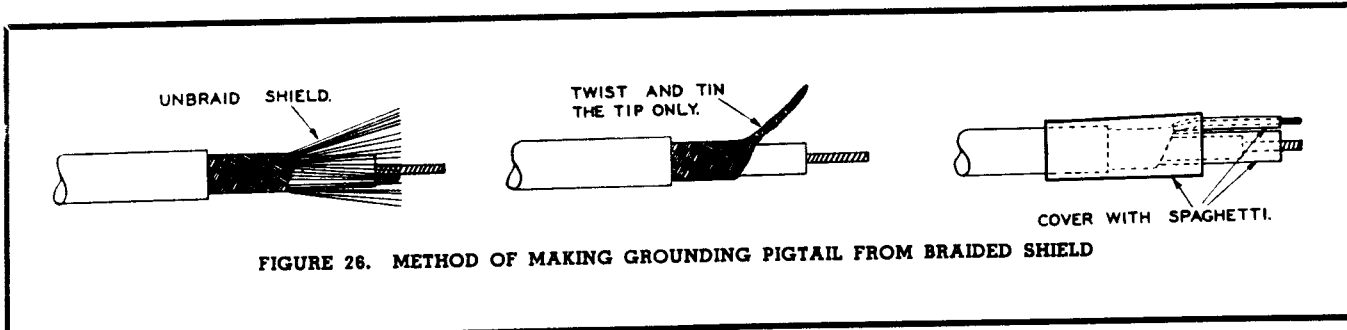
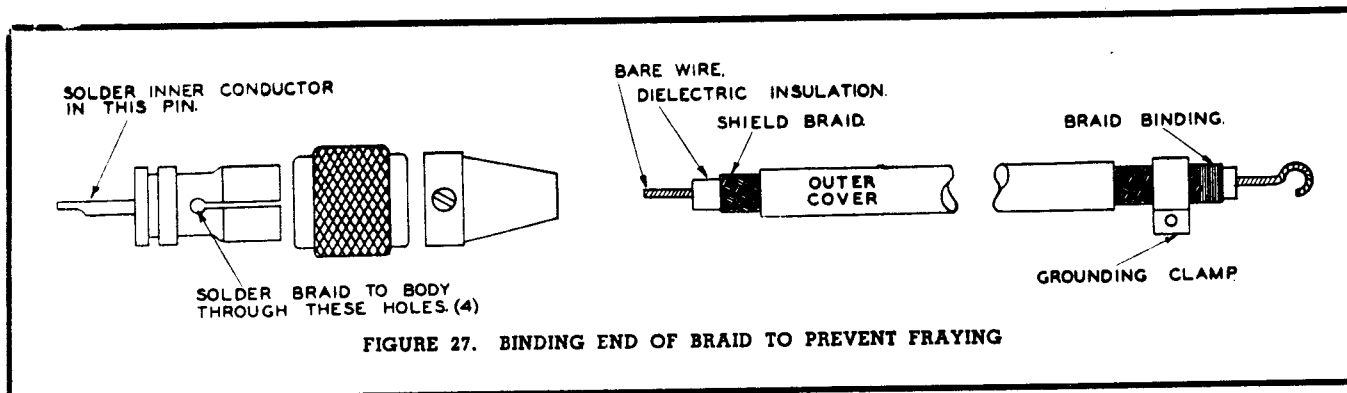

FIGURE 26. METHOD OF MAKING GROUNDING PIGTAIL FROM BRAIDED SHIELD
FIGURE 27. BINDING END OF BRAID TO PREVENT FRAYING
(1) Length of cable to be stripped depends upon fitting used. Cut outer braid at desired point with a knife, circling the covering. See figure 26. Then split covering lengthwise and remove. Take care not to cut so deeply that the braid is nicked.
(2) If a cotton braid cover is used between outer cover and braid, fan cotton braid and trim off with scissors.
(3) In installations where coaxial line does not terminate in a plug, use a wire brush or a fine hooked instrument to unravel outer copper braid conductor
shield the required distance from end of stripped outer covering. Then twist outer braid together to form a ground lead. See figure 26. Braids of most connectors should be cut off a short distance from outer cover.
(8) In some plugs, a "C" washer is necessary to securely anchor outer braid lead to coaxial connector. See figure 26. Solder lug to end of outer braid lead, after lead has been cut off approximately $\frac{1}{4}$ " from junction of twisted strands. Then solder lug to "C" washer, after inner conductor is soldered in place. Assemble fitting and insert "C" washer between sleeve of fitting, and fitting sealing-nut, thus securely connecting outer conductor to fitting shell, and allowing any strain to be transmitted from outer braid to shell instead of to inner conductor. It is important that there should be no slack in the lead between outer braid and "C" washer, as such slack would cause a strain on the inner conductor.
(9) If braided outer conductor is long enough to touch inner conductor, slip a piece of insulating tubing over braided lead, so that it cannot short inner conductor.
(10) When coaxial line terminates at a terminal board, or any other point where the braid is directly grounded by a clamp fastened around the shield, bind end of braid to prevent fraying. See figure 27. Wrap several turns of fine tinned wire tightly around end of shield braid, and push ends of winding under first and last turn. Then carefully solder this binding to the braid.